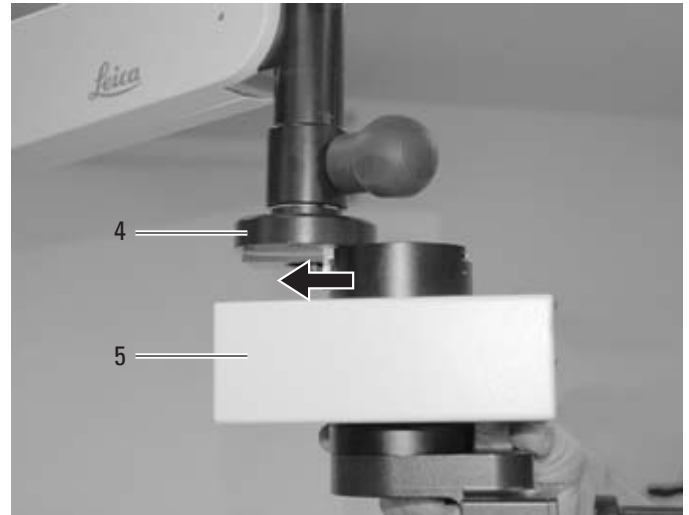

Fig. 3
⇒ Insert the XY-unit (5) with tilt drive into the dovetail guide of the rotatable joint (4) (Fig. 3).